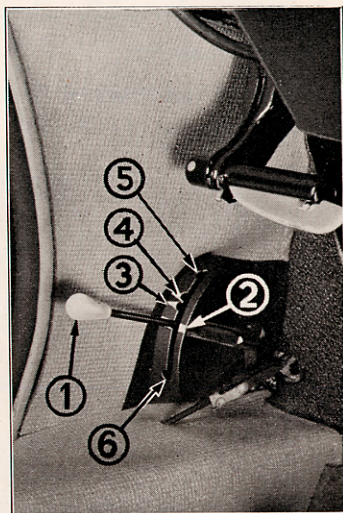

Figure 8
The control **1** (fig. 8) can be set in 3 positions shown by white marks on the control housing.
- Move the lifting lever **1** (fig. 8) completely upwards; the car will rise slowly.
- Push down the lifting lever **6** completely (fig. 8) and wait until the wheels rise (the front and rear wheels on the side on which the stand is placed rise simultaneously)